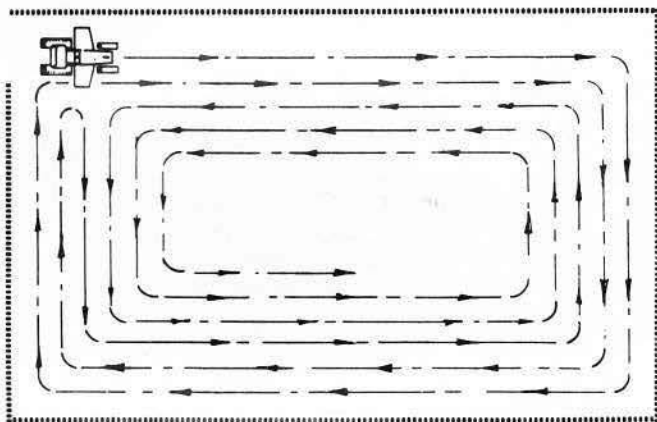

FIG. 21
5. Drive so that clippings are discharged onto the area that has been cut. See Fig. 21 for line of cut on right hand side of mower. Have the cut area to the right of the machine. This will result in a more even distribution of clippings and more uniform cutting. When mowing large areas, start by turning to the right so that the clippings will be discharged away from shrubs, fences, driveways, etc. After two or three rounds mow in the opposite direction making left hand turns until finished. If grass is extremely tall, it should be mowed twice. The first time, cut relatively high. The second time to the desired height. The L.H. end of mower should be used for trimming.